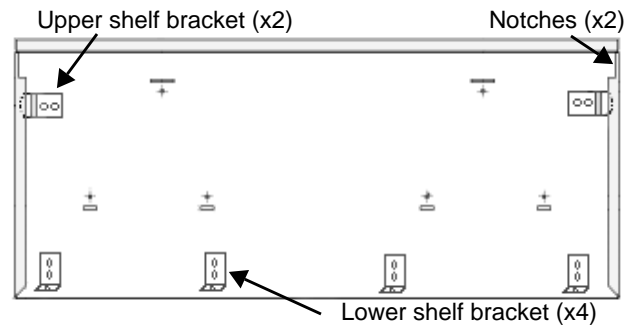

Figure 4: 48" Back of Wall Plate
2. Mount the (2) top shelf brackets and the (3) lower shelf brackets at the locations outlined on the templates. Secure with the (10) 1" (25.4mm) screws provided.
4. Insert the (3) U-Nuts onto the (3) lower shelf brackets.
5. Install the wall plate by setting the corner notches (back of wall plate) atop the (2) top shelf brackets. Slide the shelf upwards until the bottom engages with the (3) lower brackets (Figure 4).